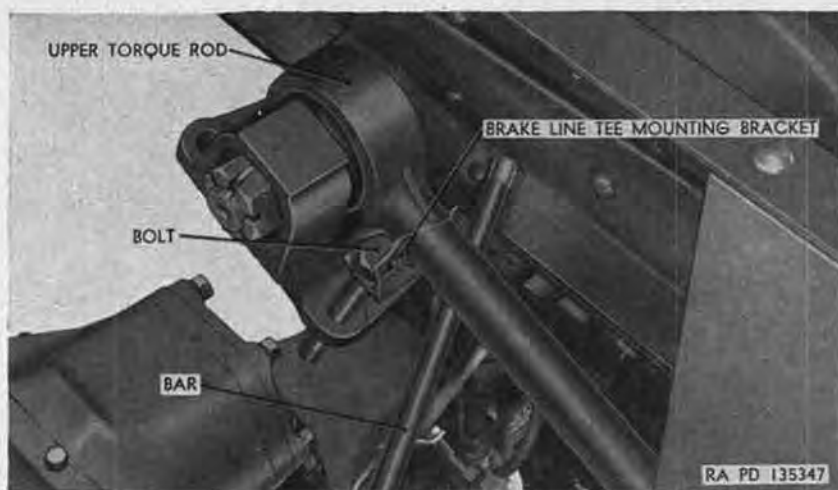

Figure 233. Upper torque rod positioned for forward rear axle removal.
- (6) *Position upper torque rod* (fig. 233). Remove brake line tee from mounting bracket. Raise upper torque rod clear of axle, and support in raised position with a short bar placed
- (2) *Connect upper torque rod.* Remove wire securing brake-line-tee mounting bracket (fig. 233) and left-rear-torque-rod-bracket bolt to torque rod. Remove bar securing upper torque rod in raised position, and position torque rod bracket on top of axle housing. This will secure axle in position and permit removal of hydraulic jack. Lower hydraulic jack and remove from under truck. Install the two front bolts